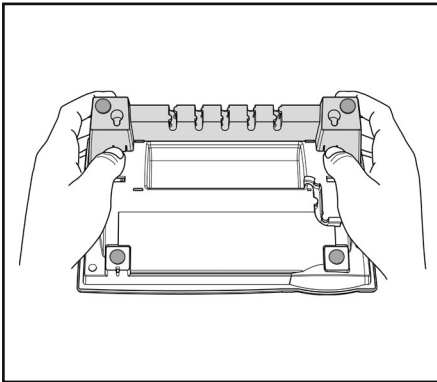
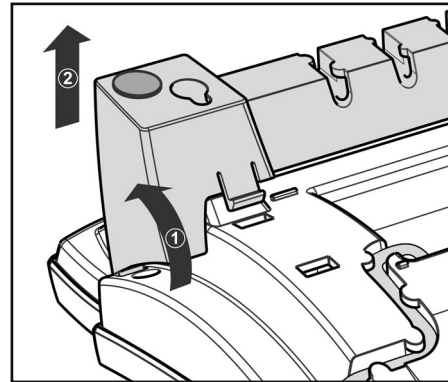

Fig. 3
Fig. 4
- 1** Turn the phone upside down (Fig. 3). Please, ensure that you do not damage the display and/or its hinge and that you do not drop the receiver. You may want to hold the phone in your lap or have a second person hold it.
- 2** Lightly press the snap-fits of the footstand inwards (Fig. 3) and, at the same time, tilt the footstand backwards and lift it from its anchorage in the mounting holes (Fig. 4).
- 4** Make sure that the handset cord has been clipped correctly into the groove on the bottom shell of the phone, as shown in Figs. 4 and 6. Failure to clip the cord into the groove will result in damage to the cord when the footstand is attached in the position for wall mounting.